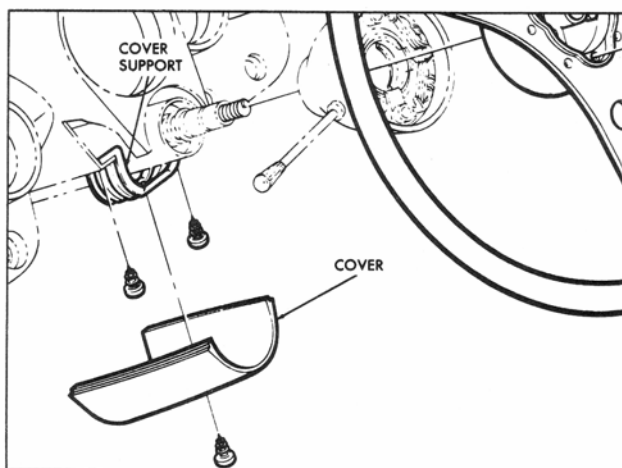

Fig. 9—Mast Jacket Cover and Support
2. Remove mast jacket lower cover and cover support (fig. 9).